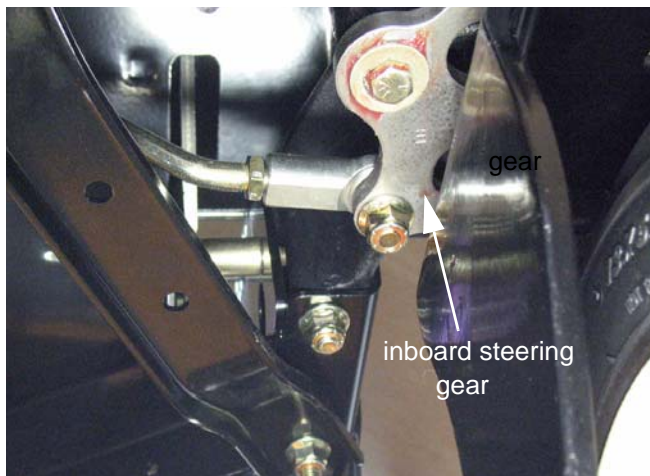

Figure 6.91
5. Disconnect the tie rod end from inboard steering gear using a pair of 1/2" wrenches. See Figure 6.91.